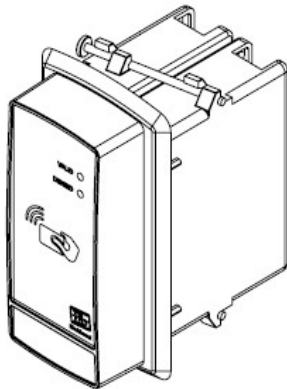

Figure 1-8 Single Gang Box Mount
- Figure 1-8 Single Gang Box Mount7